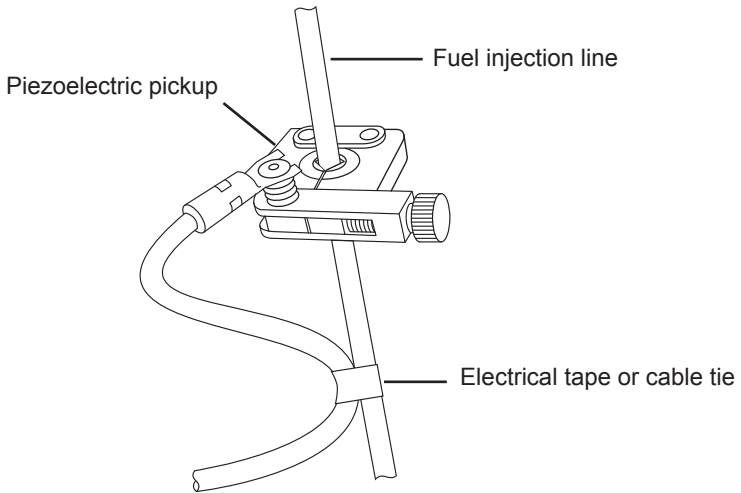

Fig. 5 - Strain relief setup for piezoelectric pickup
- Sometimes the vibration noise may be caused or magnified by the minute 'jerking' of the cable connecting to the piezoelectric pickup to the TA300, and providing some strain relief may be of help in obtaining RPM readings. To provide strain relief to the piezoelectric pickup, attach the red wire (which is connected to the pickup) to the same fuel line using electrical tape or a cable tie, as shown in Fig 5.